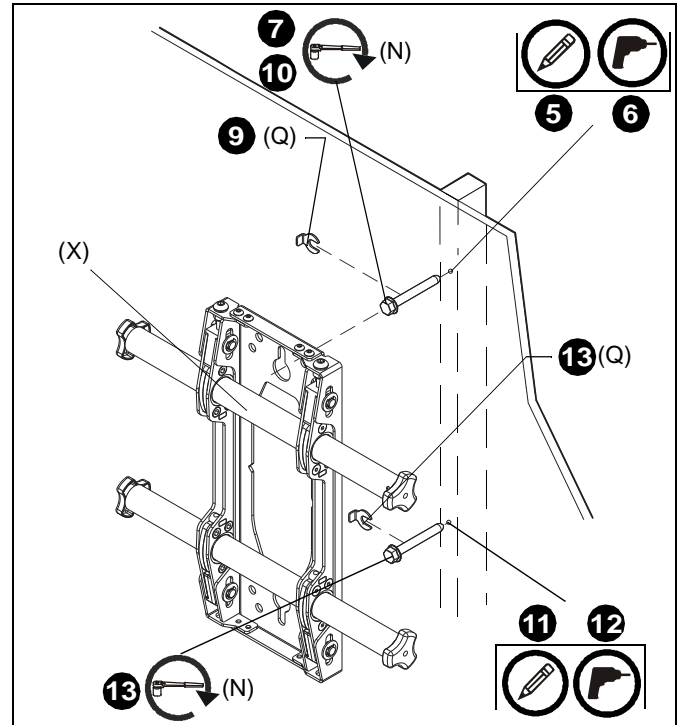

Figure 2
5. Mark the wall on the stud to attach the mount through the upper mounting slot. (See Figure 2)
7. Partially install one 5/16 x 2-1/2" flanged lag bolt (N) into pilot holes but do not tighten to wall.
8. Hang mount (X), aligning upper mounting slot over lag bolt.
9. Place one slotted washer (Q) over flanged lag bolt. (See Figure 2)
10. Tighten lag bolt to secure mount (X) to wall at upper mounting slot.
11. Mark the attachment points for the lower mounting slot, making sure the attachment point is located on the stud. (See Figure 2)
12. Drill 7/32" (5.5mm) pilot hole at marking for lower mounting hole. (See Figure 2)
13. Use one 5/16 x 2-1/2" flanged lag bolts (N) and one 5/16" slotted washers (Q) to attach the mount to the wall through the lower mounting hole. (See Figure 2)